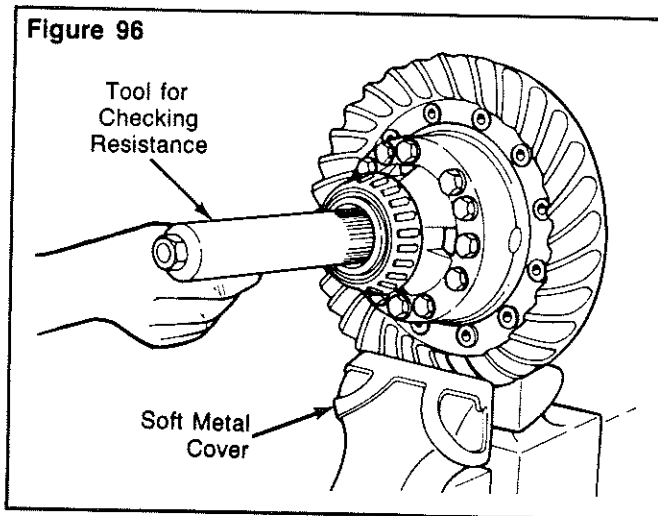

Figure 96
- C. Install the tool into the differential until the splines of the tool and one side gear are engaged. **Figure 96.**
A. Install soft metal covers over vise jaws to protect the ring gear. **Figure 96.**